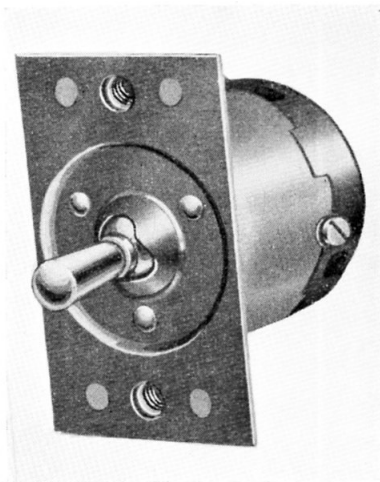

Fig. 1. Type 7B, No. 1 switch
3. The switch, which is illustrated in fig. 1 and 2, is 2.25 in. high, 1.375 in. wide, and weighs 4 oz. The cover and mounting plate are of aluminium, and riveted together by three brass rivets. The centre of the mounting plate is domed to allow for the switch's rotating movement. The centre of the domed portion has a clover leaf pattern cut out to enable the switch arm to engage the AUTOMATIC, INCREASED and DECREASED positions. The switch arm is of brass and incorporates the actuating whalebone fibre plunger, which is retained under pressure from a steel spiral spring. The moving contact plate assembly is of brass with silver contacts riveted to its extremities. The contact plate assembly is assembled so that the arm with the rounded head makes contact with the short terminals.